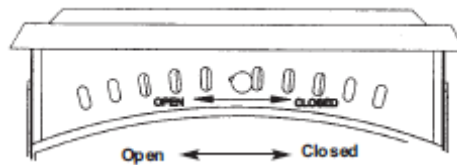

Figure 2
3. Open the secondary air control by sliding the control knob located over the top of the fire door to the left (see Figure 2).